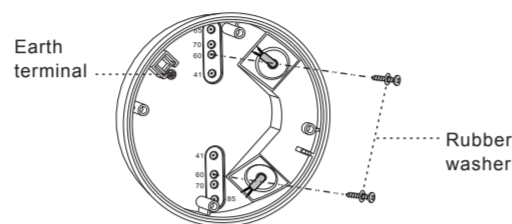

FIG.15
4.4.3.3 Choose proper knockouts to fix the junction box on the surface of ceiling board with 2pcs wood screws attached with rubber washer (See FIG.15).